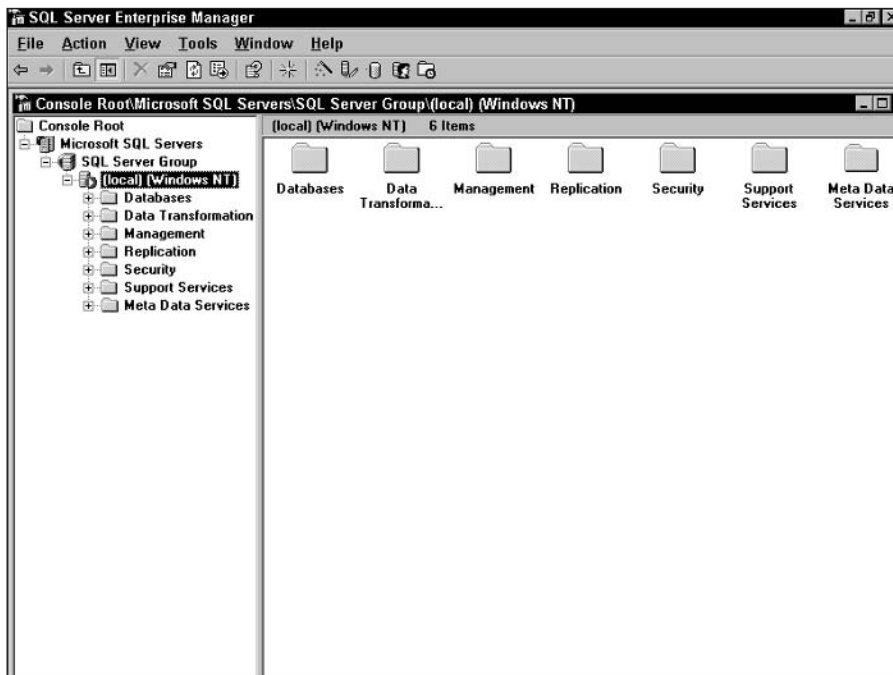

Figure 18-2: Select your SQL server.
2. In the left pane of the window, click the plus signs to open the tree until you find your SQL server, and then select it (see Figure 18-2).